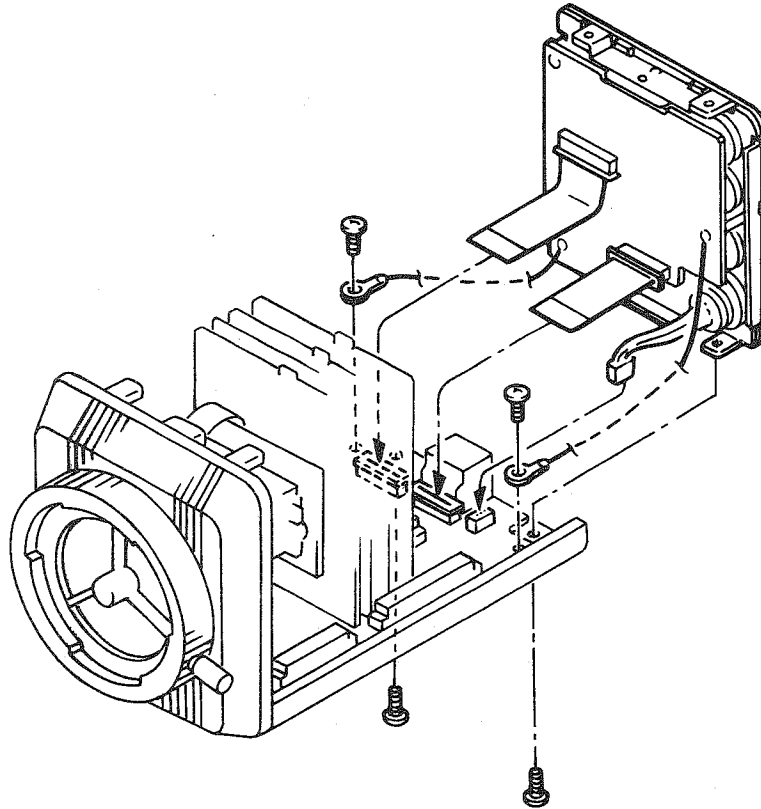

Fig. 6 Removal of rear section
- 5) If the camera's type is PAL remove two screws fixing the MB board to bottom cover as shown in Fig 6.